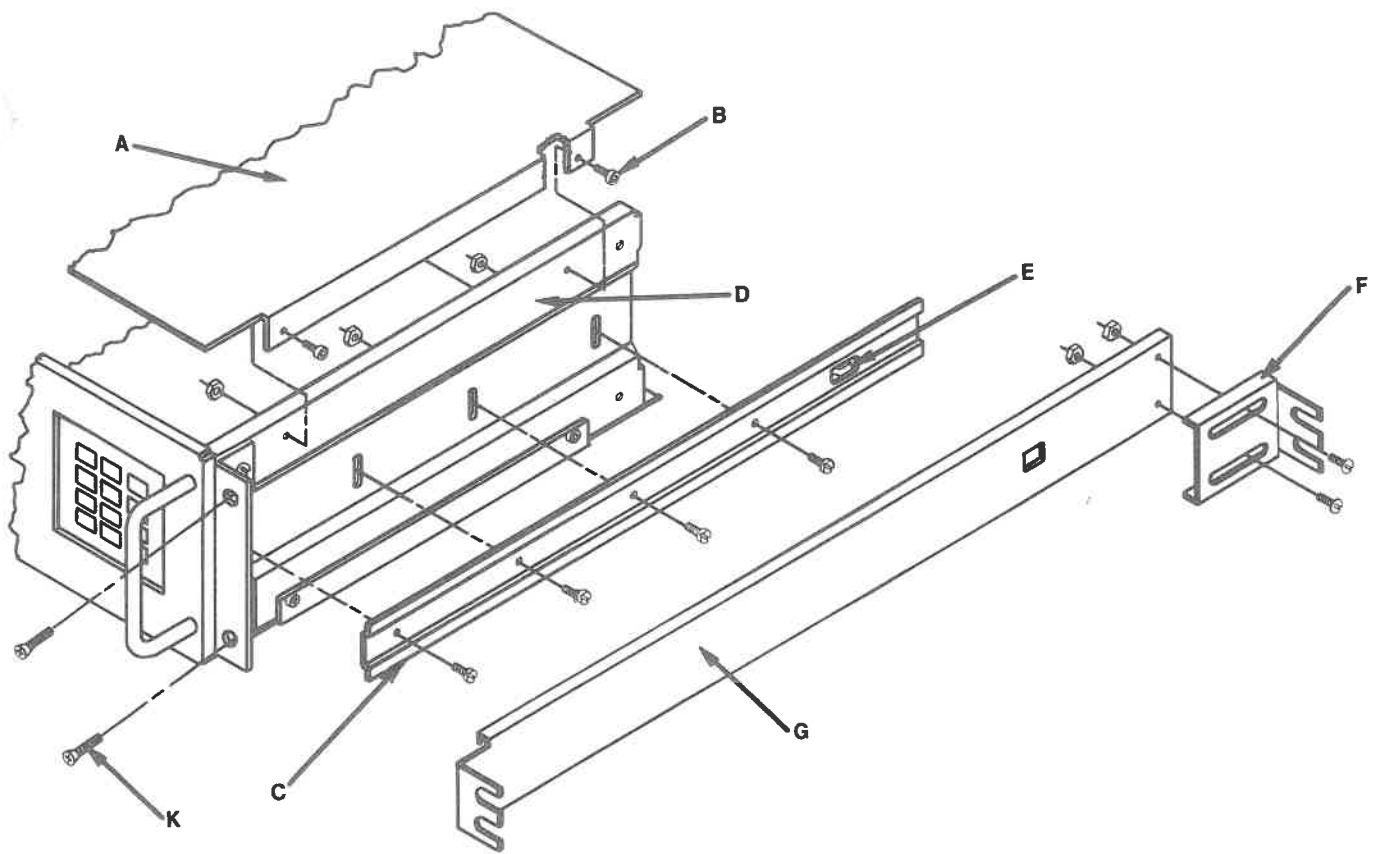

Figure 45
NOTE: See Figure 45 for Steps 1 through 6.
8. Replace top cover by replacing four screws (B). See Figure 45.
9. Attach four # 10 screws (K) to 6400's front brackets, two on each side, to keep 6400 from sliding out of its rack (Figure 45).